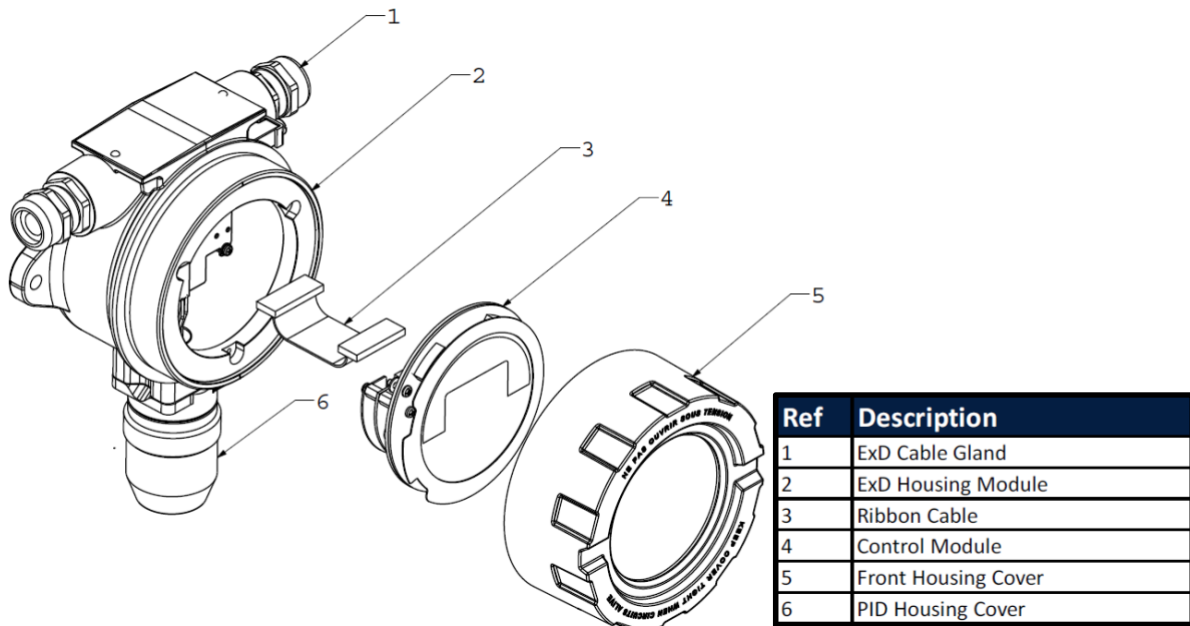

Figure 2 - Exploded view of the FALCO 2 11.7
- a. Unbolt the three bolts holding the control module item 4 in Figure 2 from the ExD housing module item 2.
- b. Disconnect the ribbon cable Figure 2 item 3 from the control module Figure 2 item 4 from its ribbon connector to get access to the terminal blocks.
4. Feed the cables through the ExD cable glands Figure 2 item 1 and connect them to the terminal blocks as required. Refer to the current loop configuration section on the following pages.